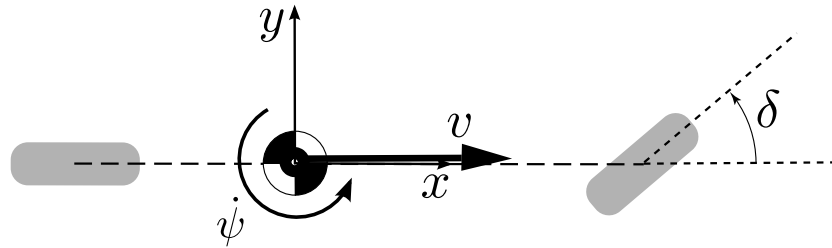

Figure 6: Bicycle model defining steering angle δ (drawn in positive direction after “ISO 8855” coordinate system \Rightarrow z up) and speed v .
- DE7.3.15 [DV ONLY] Beside RES messages (see DE7.4.8), the messages defined in Table 9 must be provided to the data logger with a cycle time of 100 ms each. Steering angle δ and vehicle coordinate system is defined in figure 6.